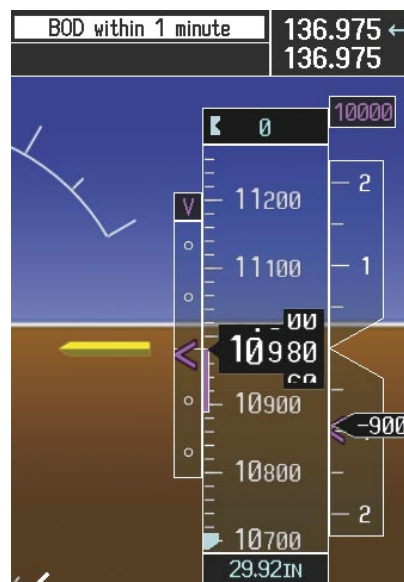

Figure 5-128 Approaching Bottom of Descent (BOD) at OPSHN Offset Waypoint
- 17) When the aircraft is one minute from the bottom of descent (BOD) it is annunciated as shown in Figure 5-128. Upon reaching the offset waypoint for OPSHN, the aircraft is at 10,000 feet.